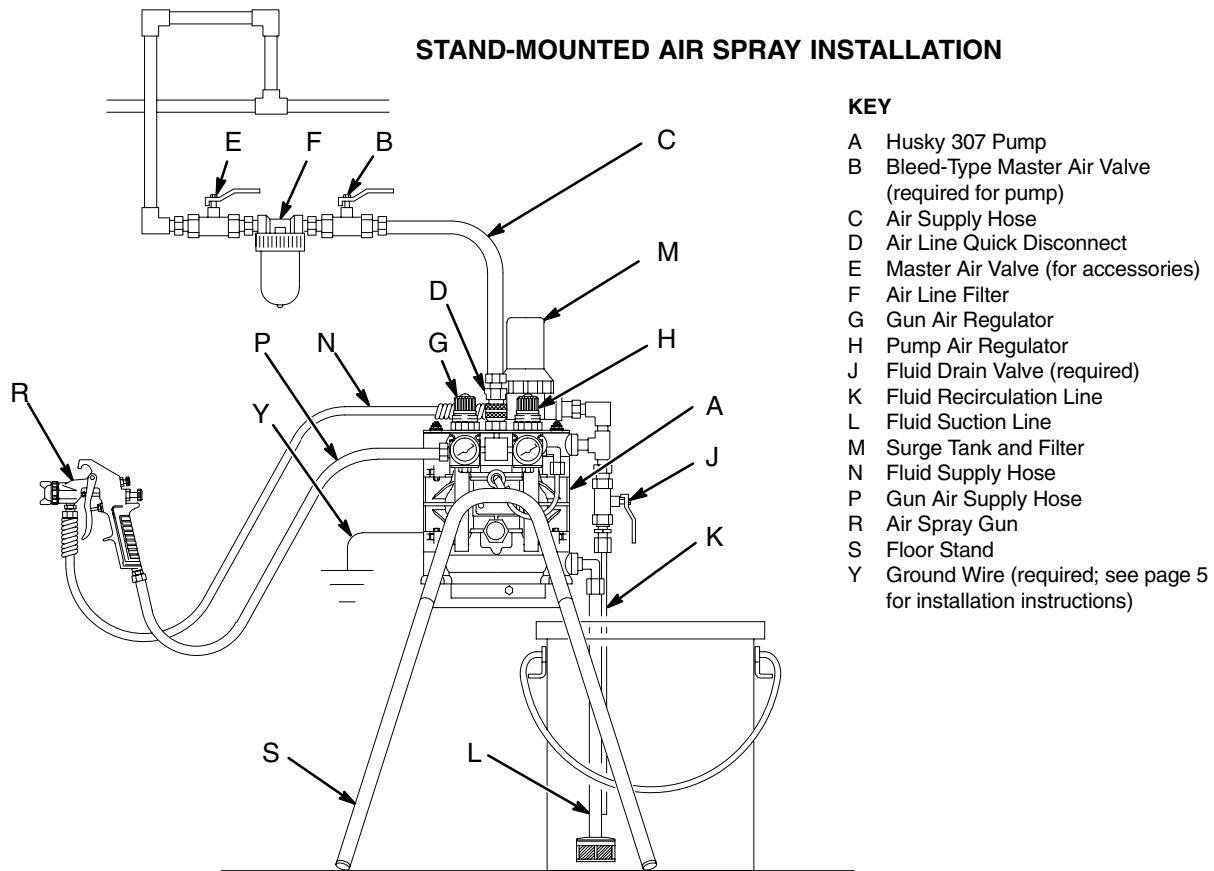
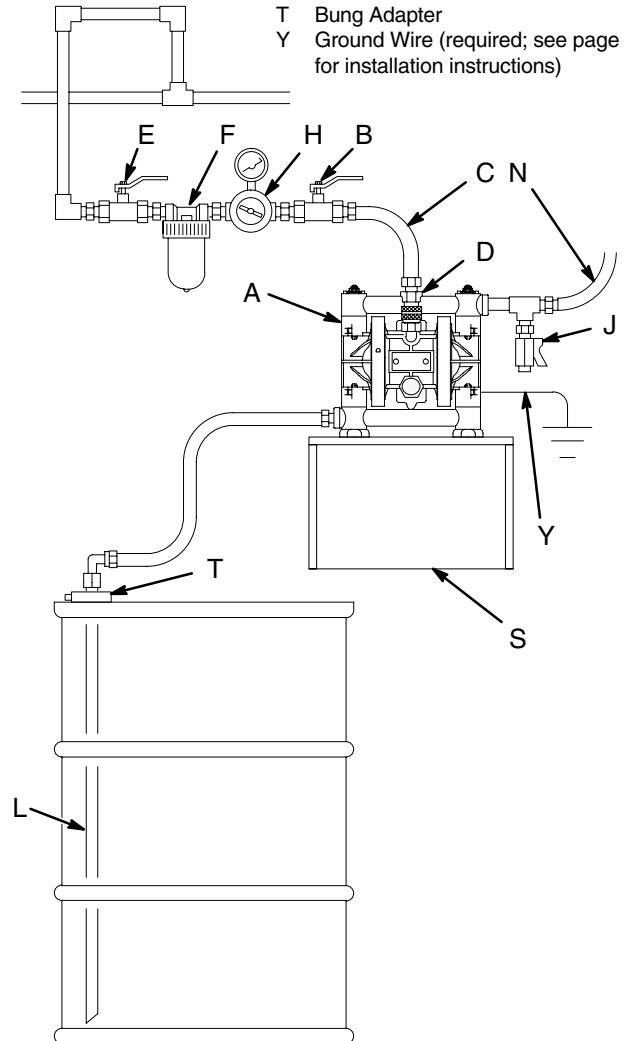

Fig. 4
Fig. 7
- The Typical Installations in Fig. 4 to Fig. 7 are only guides for selecting and installing system components. Contact your Graco distributor for assistance in planning a system to suit your needs.
- The Husky 307 Pump can be used in a variety of installations, some of which are shown in Fig. 4 to Fig. 7. Kits are available to adapt your pump to your system. Refer to the Product Data Sheet for the pump, Form No. 305528 (acetal pumps) or 305543 (polypropylene pumps).
When pumping conductive flammable fluids, **always** ground the entire fluid system by making sure the fluid system has an electrical path to a true earth ground (see Fig. 4 through Fig. 7).
NOTE: When pumping conductive flammable fluids with a polypropylene pump, **always** ground the fluid system. See the **WARNING** at left. Fig. 4 through Fig. 7 show recommended methods of grounding flammable fluid containers during filling.
A bleed-type master air valve (B) is required in your system to relieve air trapped between this valve and the pump. See Fig. 4 to Fig. 7. Trapped air can cause the pump to cycle unexpectedly, which could result in serious injury, including splashing in the eyes or on the skin, injury from moving parts, or contamination from hazardous fluids.
1. Install the air line accessories as shown in Fig. 4 to Fig. 7. Mount these accessories on the wall or on a bracket. Be sure the air line supplying the accessories is grounded.
A fluid drain valve (J) is required in your system to relieve pressure in the hose if it is plugged. See Fig. 4 to Fig. 7. The drain valve reduces the risk of serious injury, including splashing in the eyes or on the skin, or contamination from hazardous fluids when relieving pressure. Install the valve close to the pump fluid outlet.
See Fig. 4 for accessories